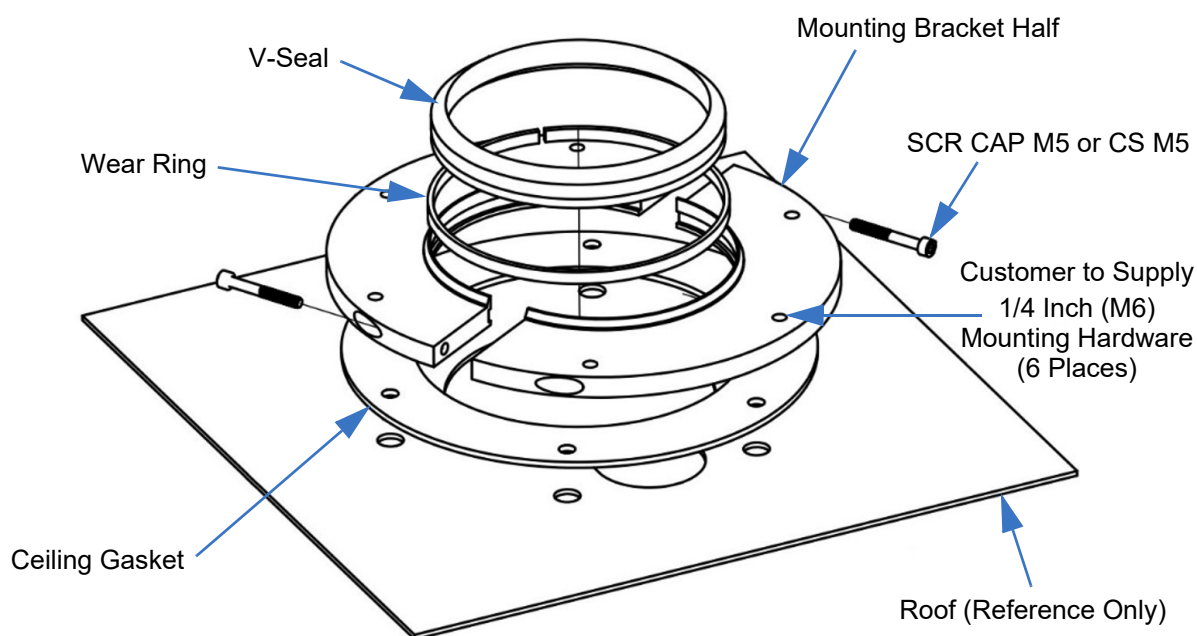

Figure 4-4 Internal Mounting Kit
3. Center the ceiling plate from the Internal Mounting Kit (Figure 4-4) over the hole. Use it as a template to drill bolt holes for attachment.